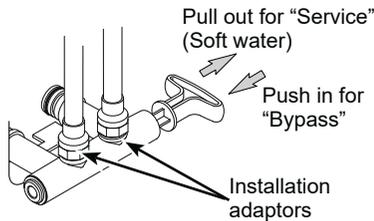

Figure 4
Always install either a single bypass valve (provided), as shown in Figure 4, or, if desired, parts for a 3 valve bypass system (not included) can be purchased and assembled, as shown in Figure 5. Bypass valves allow you to turn off water to the softener for maintenance if needed, but still have water in house pipes.
2. Place the bypass valve (single or 3 valve) into the "bypass" position. See Figures 4 and 5.
- Single bypass valve (Figure 4): Slowly move the valve stem toward "service," pausing several times to allow the water softener to fill with water.